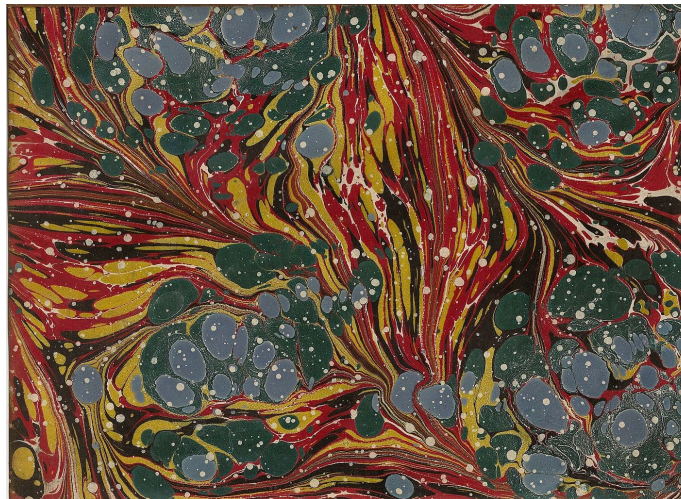

Figure 1: An example of a paper marbling pattern taken from a cover to the book *Encyclopædia Britannica*. (Image from Wikipedia.)
1. **Simulating paper marbling.** Figure 1 shows an example of paper marbling, a type of craft activity for making colorful swirling designs. Paper marbling is done by filling a shallow tray with water, adding layers of oil-based paints to the surface, and then using the water motion to mix and deform the paint colors. After this, a sheet of paper is laid on top of the tray, to transfer the paint pattern. Here are some Youtube videos showing paper marbling in action: A, B, C, D. **The goal of this question is to produce your own paper marbling pattern, by extending the incompressible fluid simulation that was introduced in the lectures.** The end result should roughly resemble Fig. 1.